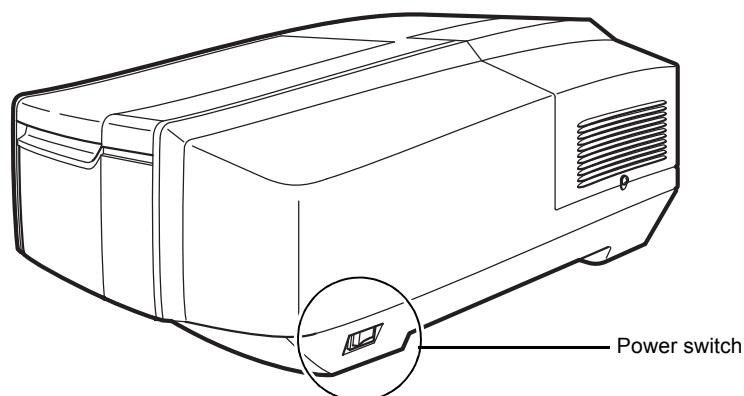

Fig.2-7 Power Switch for UV-2600i/2700i
- 1 Press "I" on the power switch (Fig.2-7) to turn on the power.
- 3 Press "O" on the power switch (Fig.2-7) to turn off the power.